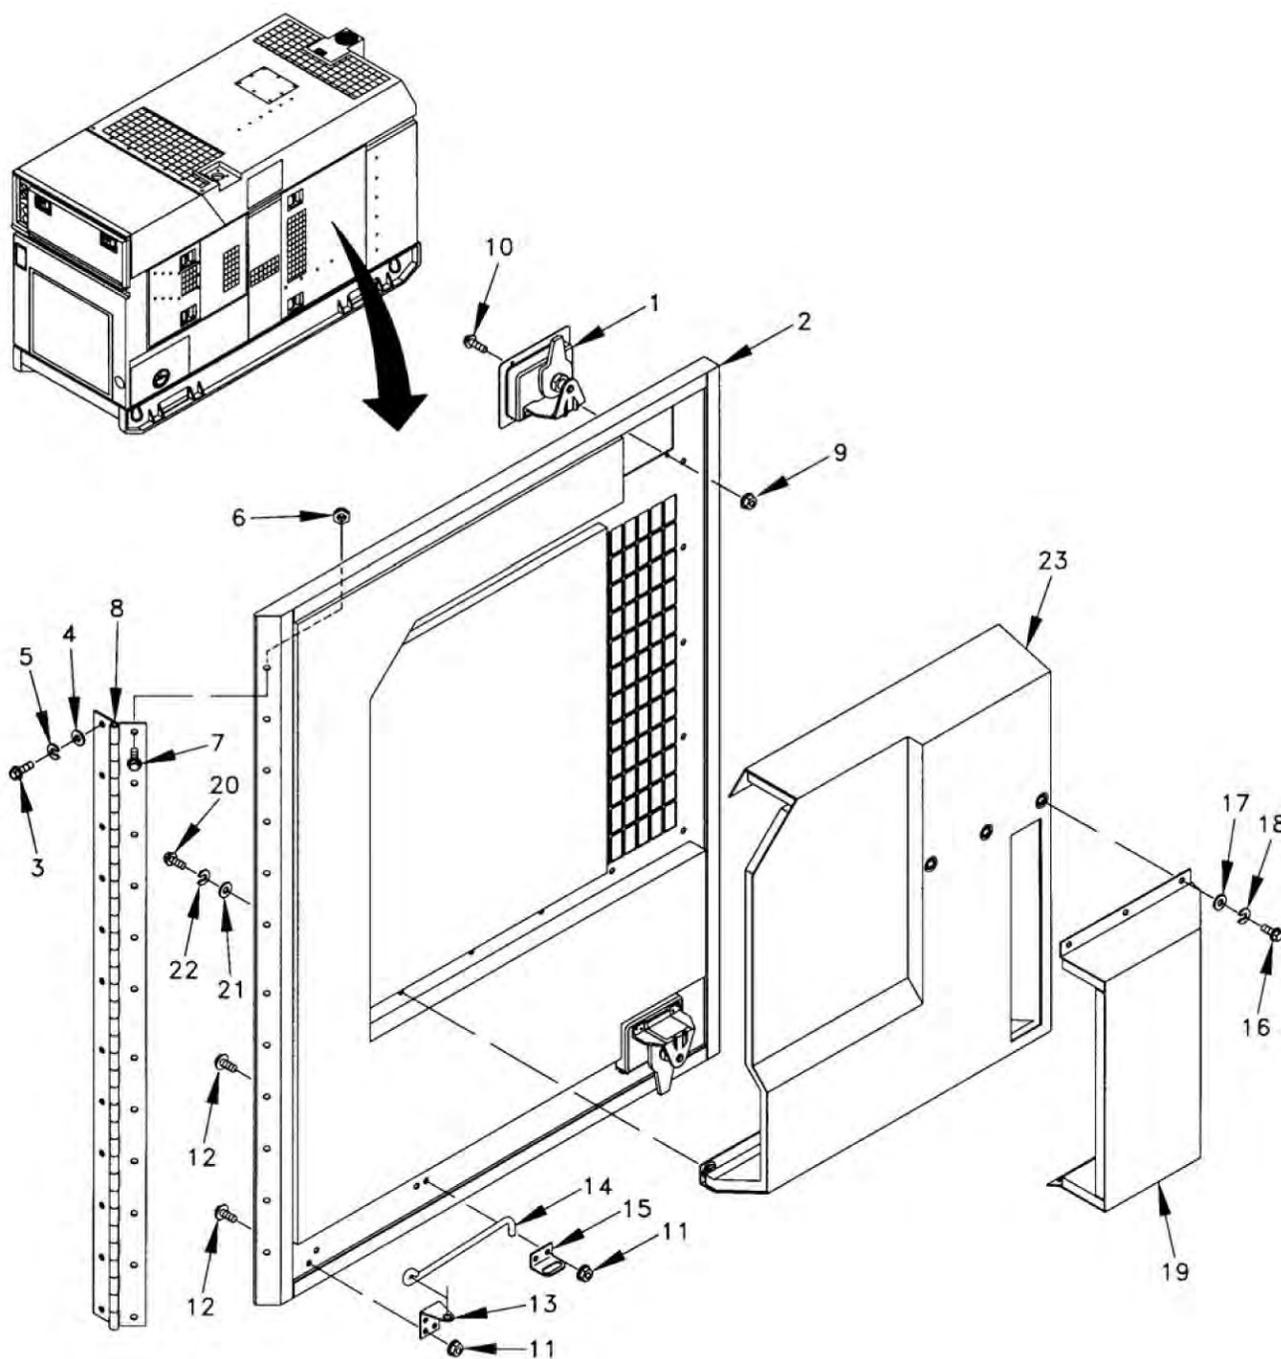

Figure 1. Right Front Door Assembly (Latch).
1. Turn two latches (Figure 1, Item 1) and open right front door assembly (latch) (Figure 1, Item 2).
2. Remove twelve screws (Figure 1, Item 3), washers (Figure 1, Item 4), lock washers (Figure 1, Item 5), and right front door assembly (latch) and hinge (Figure 1, Item 2).
1. Remove twelve nuts (Figure 1, Item 6), screws (Figure 1, Item 7), and hinge (Figure 1, Item 8) from right front door assembly (latch) (Figure 1, Item 2).
2. Remove eight nuts (Figure 1, Item 9), screws (Figure 1, Item 10), and two latches (Figure 1, Item 1).
3. Remove four nuts (Figure 1, Item 11), screws (Figure 1, Item 12), door holding bracket (Figure 1, Item 13), door holding rod (Figure 1, Item 14), and holding rod bracket (Figure 1, Item 15).
4. Remove ten screws (Figure 1, Item 16), washers (Figure 1, Item 17), lock washers (Figure 1, Item 18), and deflector (Figure 1, Item 19).
5. Remove twelve screws (Figure 1, Item 20), washers (Figure 1, Item 21), lock washers (Figure 1, Item 22), and duct (Figure 1, Item 23).
3. Install duct (Figure 1, Item 23) and secure with twelve lock washers (Figure 1, Item 22), washers (Figure 1, Item 21), and screws (Figure 1, Item 20).
4. Install deflector (Figure 1, Item 19) and secure with ten lock washers (Figure 1, Item 18), washers (Figure 1, Item 17), and screws (Figure 1, Item 16).
5. Install holding rod bracket (Figure 1, Item 15), door holding rod (Figure 1, Item 14), door holding bracket (Figure 1, Item 13), and secure with four screws (Figure 1, Item 12), and nuts (Figure 1, Item 11).